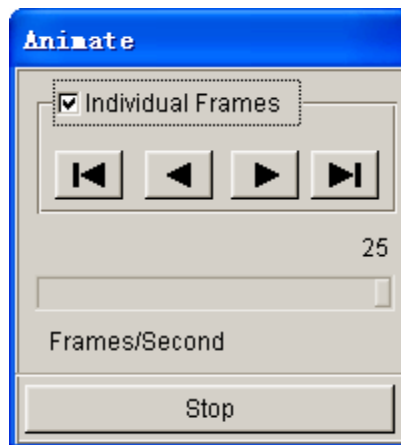

Figure 3.37 Animate control dialog box
3. You can select the **INDIVIDUAL FRAMES** option from the ANIMATE dialog box illustrated in Figure 3.37 to display the incremental tool movement.